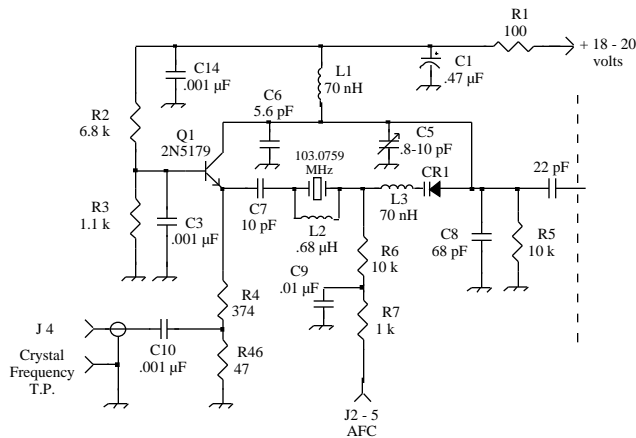

Figure 4.
*This is a close-up view of the modified L.O. assembly. Note that R5, R6, C9, and R7 have been removed and two jumpers have been installed where CR1 and L3 used to be. C5 is adjusted for proper frequency. Refer to the text and figures 4 and 5 for the schematic references.*